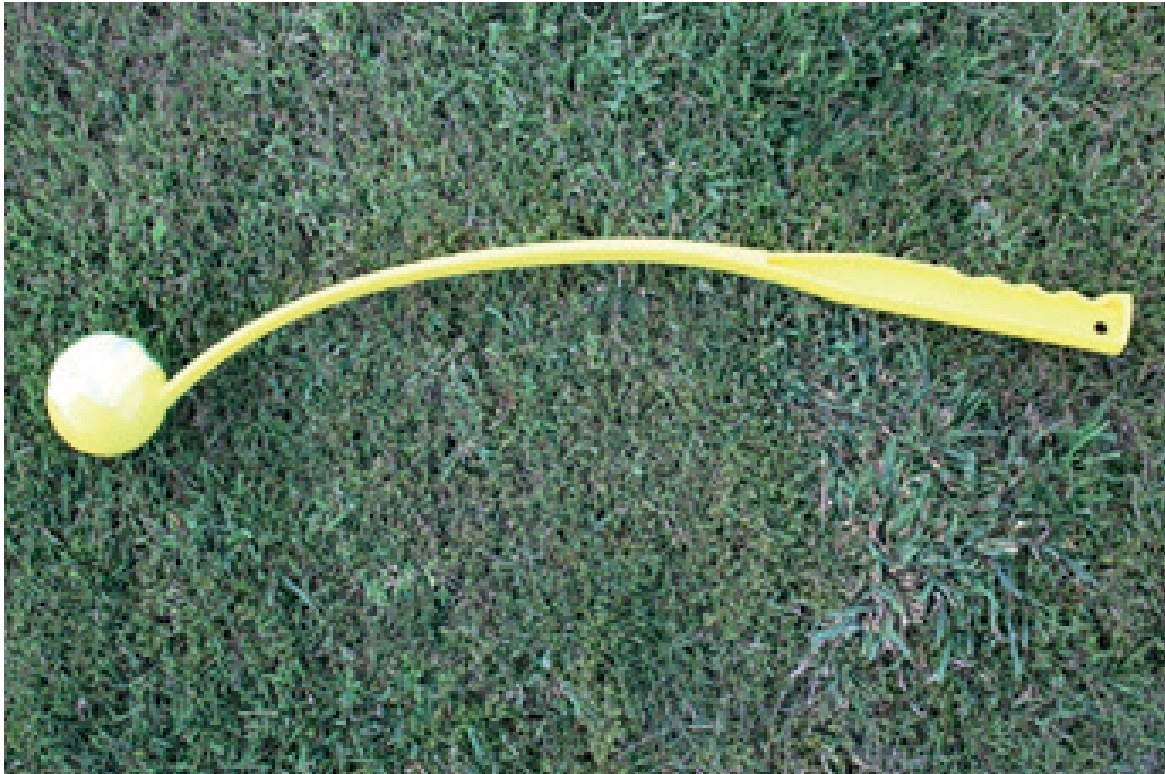

Fig. 12
- 6 The ball thrower shown in **Fig. 12** is a lightweight, easy to use product that can provide maximum exercise for your dog with little effort by the operator.